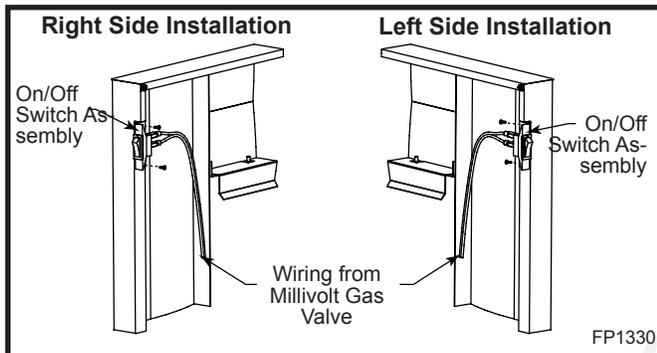

Fig. 7 Insert ON/OFF switch with wiring assembly into bracket switch.
2. Insert ON/OFF switch with wiring assembly into the bracket switch with the pre-punched opening mounted on the right side of the trim. (Fig. 7)